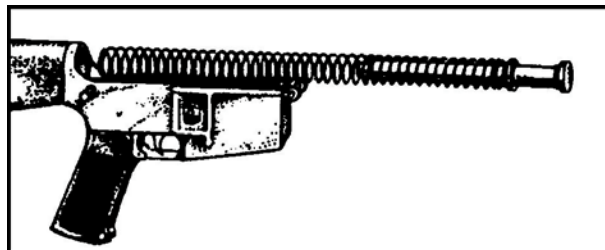

Figure 24. Placing the spring and buffer.
- a. Insert the spring and buffer (Figure 24).